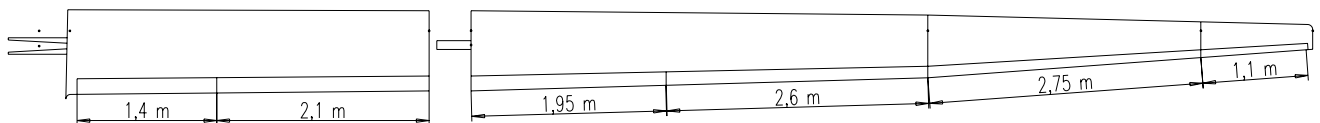

FIG. 5 Upper Wing Surface
5.2 Now cut the plastic fairing strip (5) for flaps and ailerons [Mylar foil, 22-15 mm wide] into appropriate lengths in accordance with Fig. 5 .